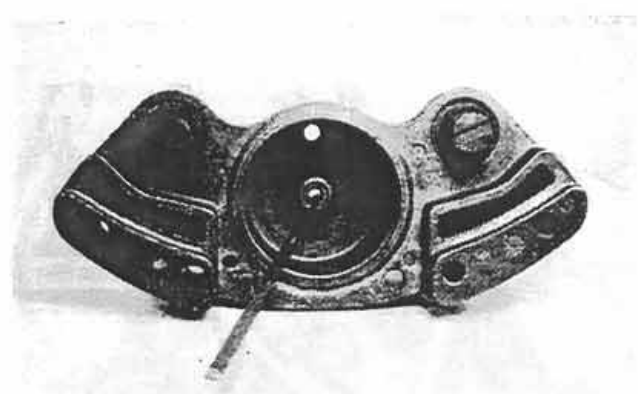
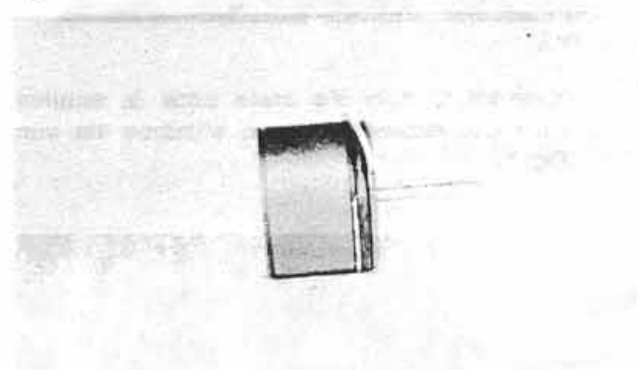

Figure 9:
Figure 10:
7. Using an O-ring pick, remove the O-rings from the retractor pin bore of the piston side casting (Fig. 9) and also from the outside diameter of the piston (Fig. 10).